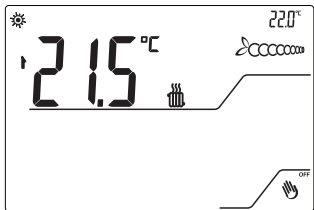

Fig.2
3.1.1 Start the display by pressing . Fig.2
3.2.1 Start the display by pressing . Fig.2
4.1.1 Press  OFF Fig.2
6.1 Start display by pressing  OFF. Fig.2